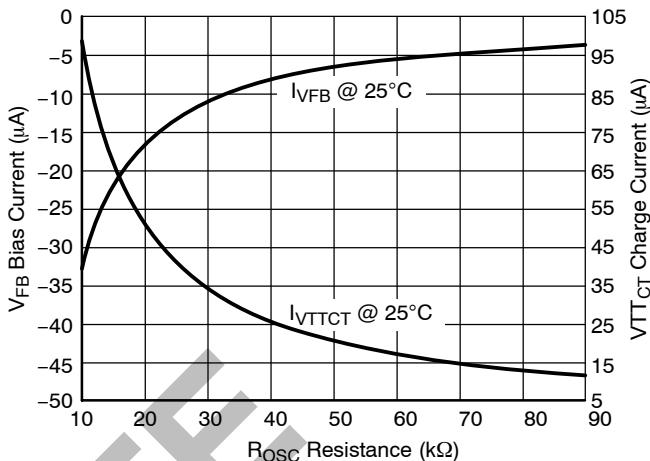

Figure 4. VFB & VTTCT Currents vs. ROSC Value
- The  $V_{\text{FB}}$  Bias Current and  $V_{\text{TCT}}$  Charge Currents change with the value of  $R_{\text{OSC}}$  per Figure 4.